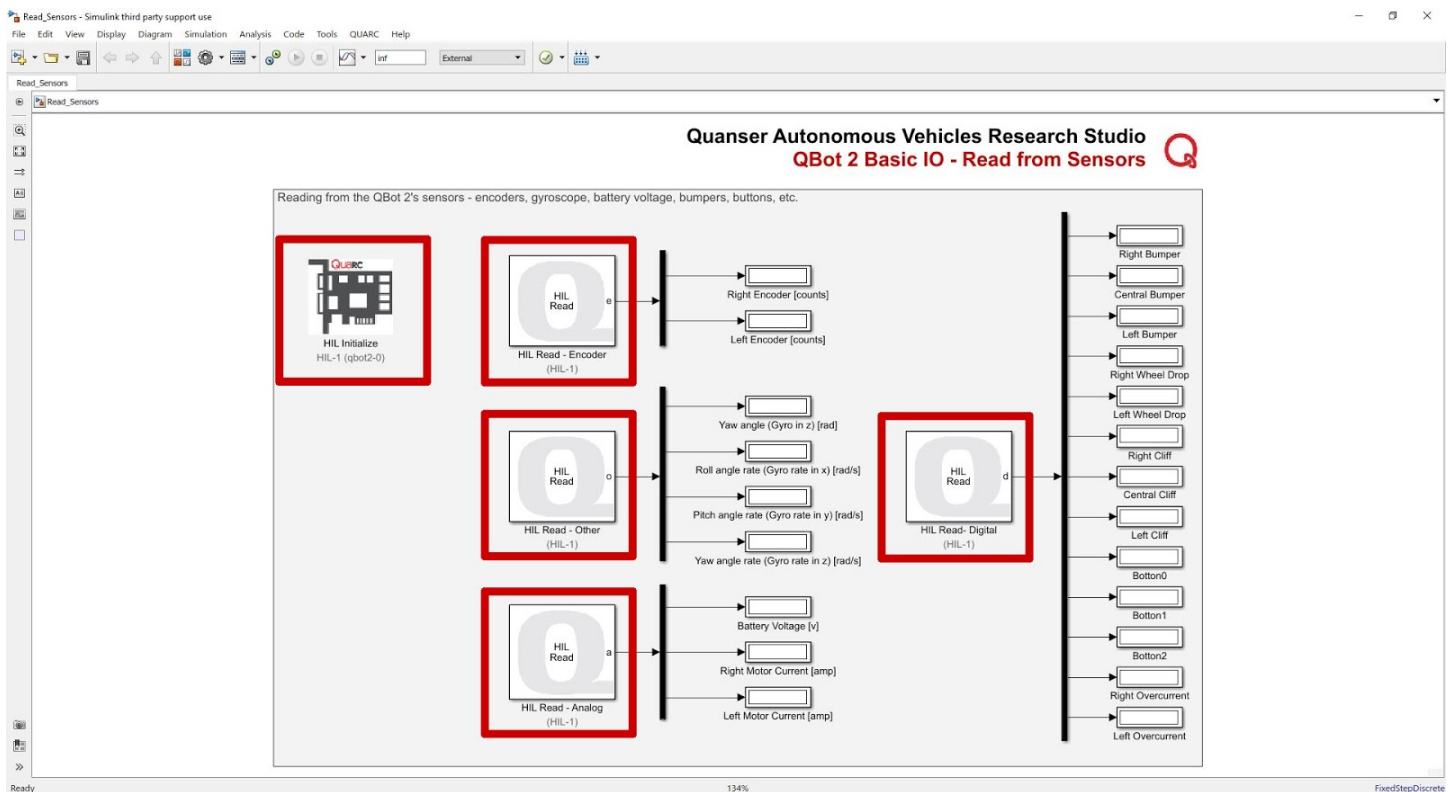

Figure 1: Read_Sensors.slx model, highlighting the HIL Initialize and HIL Read blocks
1. Under the Guides and Resources > Basic IO > QBot 2 > Software folder, open Read_Sensors.slx (Figure 1)